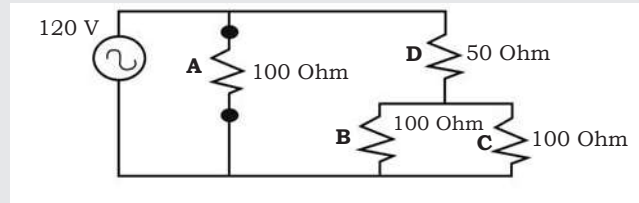

Fig. 1
D. Find the electrical quantities in the circuit as shown in Fig. 1.